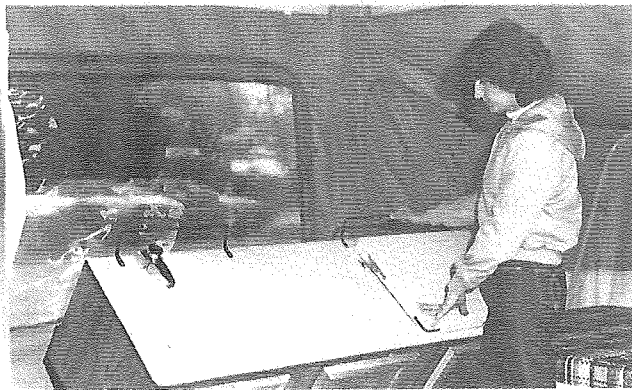

FIG. 27 - Galley Set-Up
18. Grasp the towel bar of the galley units, lift up and rotate 180 degrees to the inside of the trailer and lower gently to the floor. (See Fig. 27.)